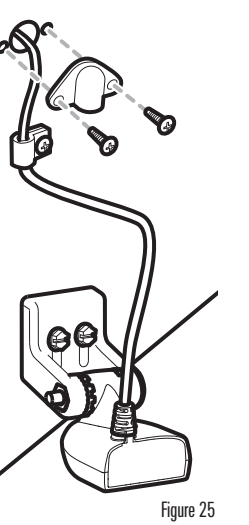

Figure 25
- If you will be routing the cable through a hole in the transom, drill a 5/8" (16 mm) diameter hole above the waterline. Route the cable through this hole, then fill the hole with marine-grade silicone sealant and proceed to the next step immediately (Figure 25).